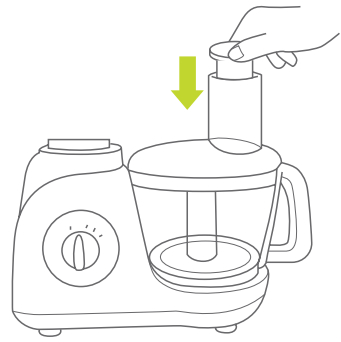

Fig. 5
- Use the pusher to push ingredients through the throat. (Fig. 5)